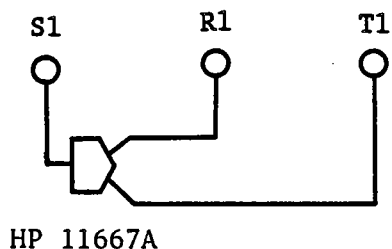

Figure 2-19. Magnitude Ratio/Phase Frequency Response Test Setup (1 of 3)
- Connect the cables and the Power Splitter associated with the Adapter to the HP 4195A as shown in Figure 2-19.